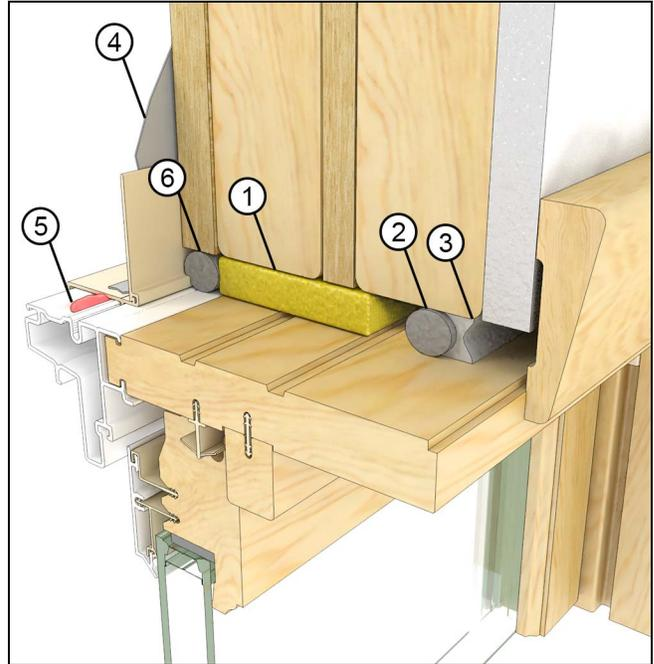

Figure 26
**2. Low Expansion Foam.** Install a backer rod at the exterior plane of the RO. Apply a low expansion/low compression closed cell foam in the cavity. Install a backer rod and sealant at the interior plane of the RO to create a continuous air seal. See Figure 26.